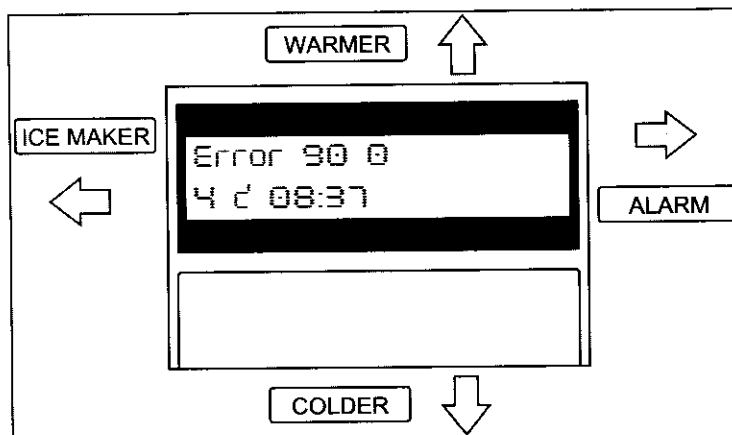

Figure 3-43. Key Strokes and Tech Display - Error History
3. Press the ALARM key two (2) times. Now, if error codes are present, the most recent will be displayed (See Figure 3-43). Below the Error Code will be the number of days, hours and minutes since the error was logged.